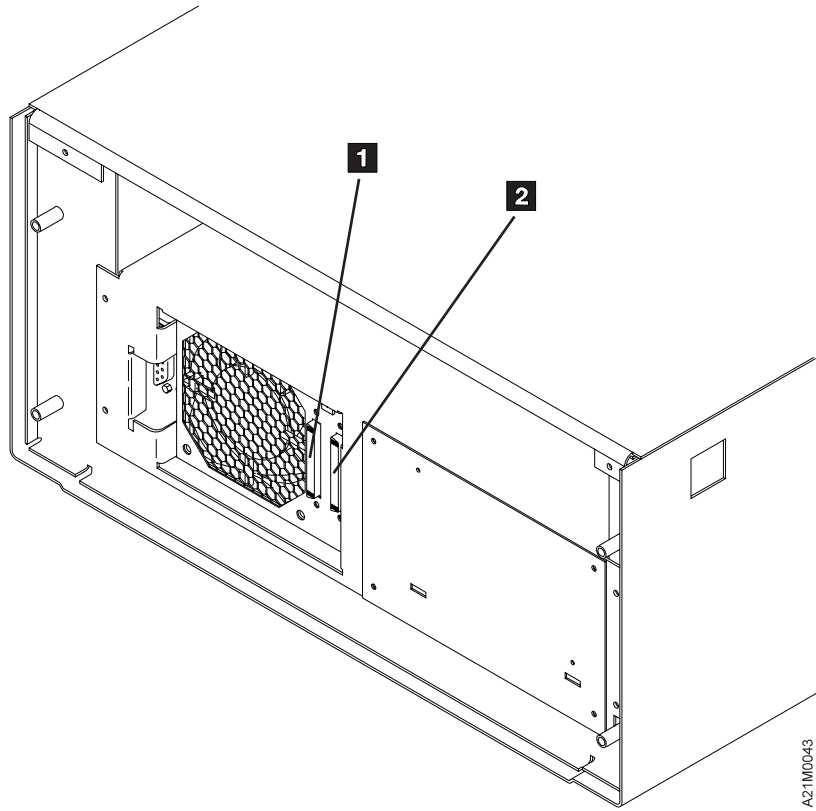

Figure 52. Rear View of Model B21
1. If the 3570 is the first or only SCSI device connected in line to the initiator, connect the SCSI cable coming from the initiator to the leftmost SCSI connector on the back of the library (see **1** in Figure 52).
2. If the 3570 is not the first device on the SCSI bus, connect the SCSI interface cable coming from the next closest device to the leftmost SCSI connector on the back of the library (see **1** in Figure 52).
3. If this is the last device on this SCSI bus, locate the SCSI interface terminator (P/N 61G8324) and attach it to the rightmost SCSI connector on the back of the library (see **2** in Figure 52).
4. If the library is not the last device on this SCSI bus, locate the SCSI interface cable to the next device and connect it to the unused, rightmost SCSI interface connector on the back of the library (see **2** in Figure 52).